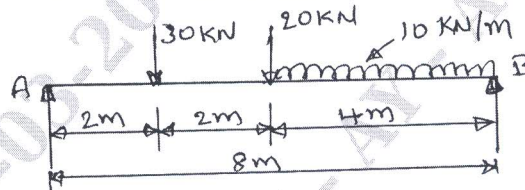

Fig. Q5 (b)
- b. The simply supported beam shown in Fig. Q5 (b) carries two concentrated loads and uniformly distributed load. Draw SFD and BMD. (10 Marks)